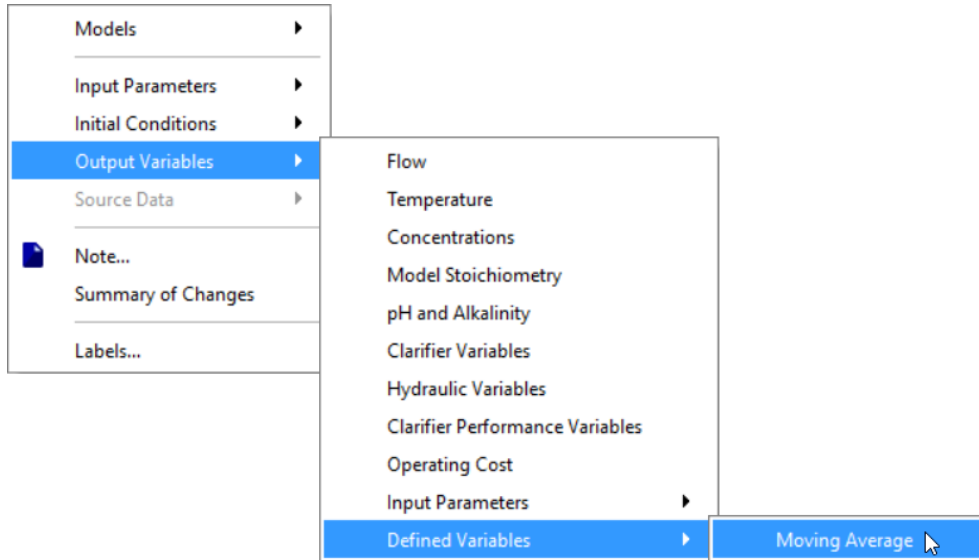

Figure 5-4 – Viewing Defined Variables
- (1) Right-click on the process that contains the defined variable. The process data menu will appear.
- (2) Select **Output Variables > Defined Variables > Moving Average**. See **Figure 5-4**. A dialog window with the defined variables will be displayed.